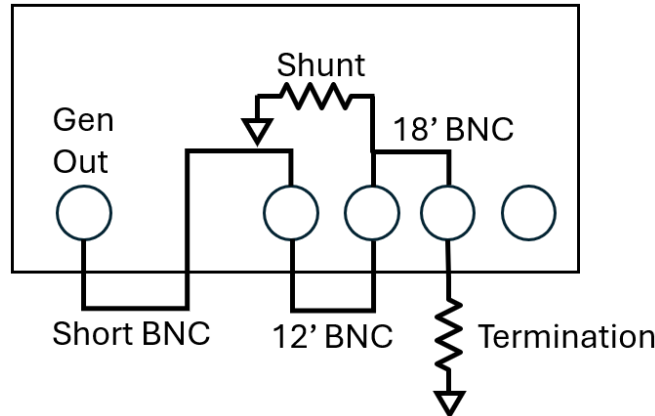

Figure 2
2. Consider an oscilloscope and function generator connected as shown in Figure 2. Calculate the voltage waveforms you expect to see at channels 1, 2 and 3 after gen out drives a 1V step onto the line for the values of shunt and termination resistors listed below.